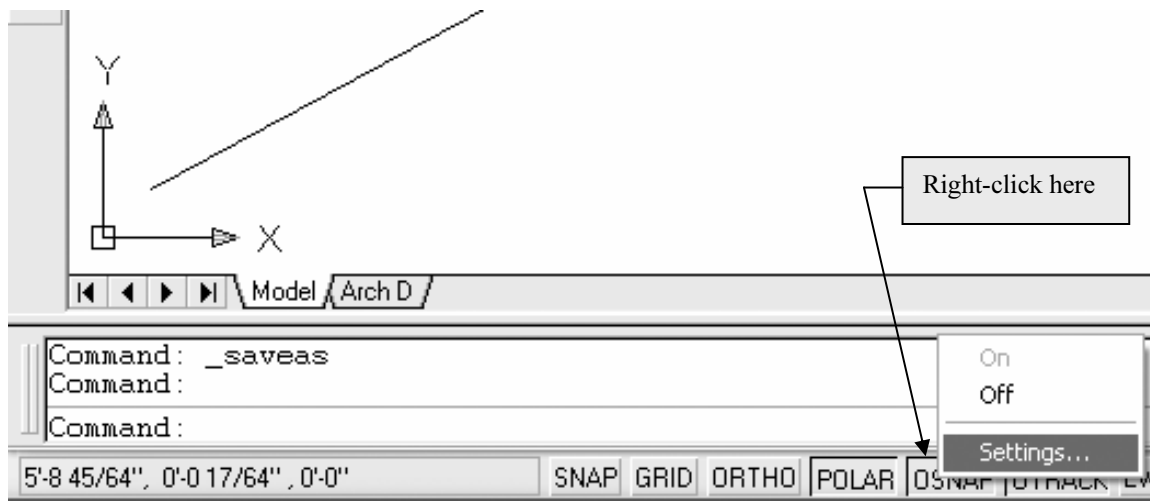

Figure 2-2.4 Right-click on OSNAP button located on the Status Bar
3. Right-click on the *OSNAP* button on the *Status Bar* and select **Settings** from the pop-up menu (Figure 2-2.4).